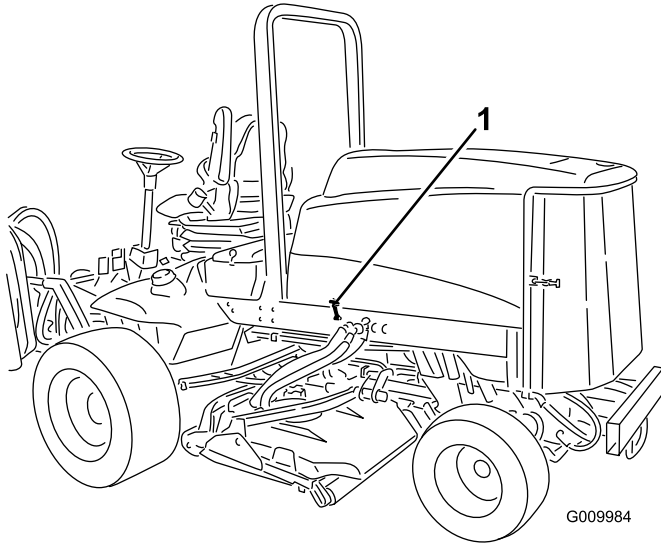

Figure 26
1. Release hood latches (Figure 26) and pivot open the hood.